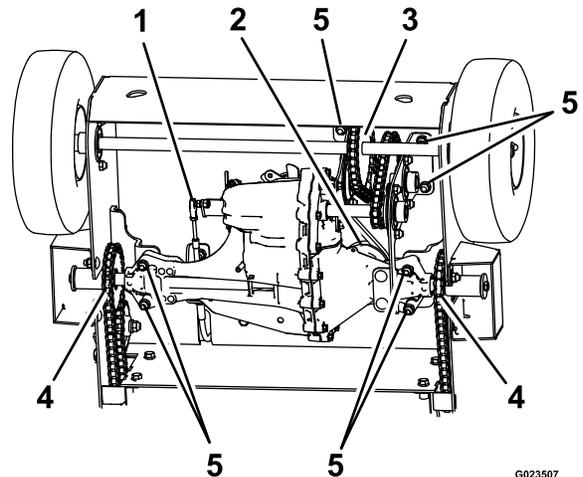

Figure 39
5. Remove the transmission from the machine (Figure 39).